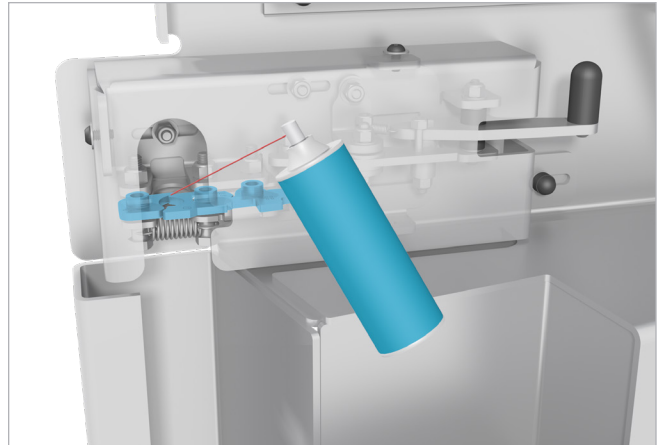

Figure 1 – Lock assembly metallic components.
1. Using the PTFE (Teflon) based dry film lubricant, spray the metallic components of the lock assembly as shown in **Figure 1**.